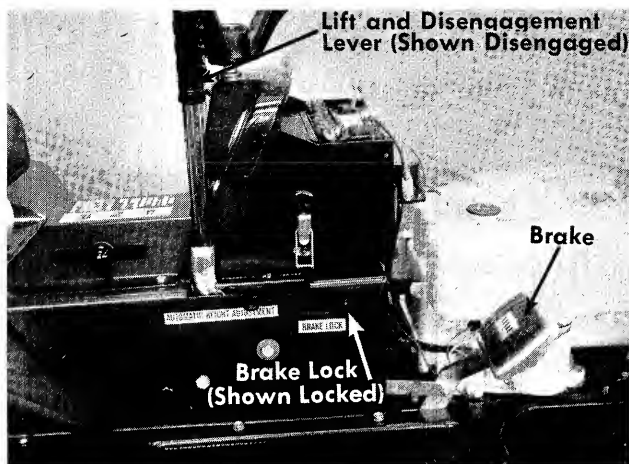

FIGURE 9. RIGHT HAND CONTROLS
e. **Clutch Pedal.** The clutch pedal is used to disengage the drive mechanism. Depressing the clutch pedal at any time will reduce mower speed. If depressed all the way, it will stop the mower. See figure 9.
l. Lift and Disengagement Lever. It is used to raise the cutting deck. Pulling it all the way back and locking it disengages the blades. The engine will not start unless the lift and disengagement lever is in the disengaged position. See figure 9.
Step 3. Place the lift and disengagement lever in the DISENGAGED position. See figure 9.
To stop the blades, move the lift and disengagement lever (figure 9) into the DISENGAGED position. This raises the deck and disengages the blades.